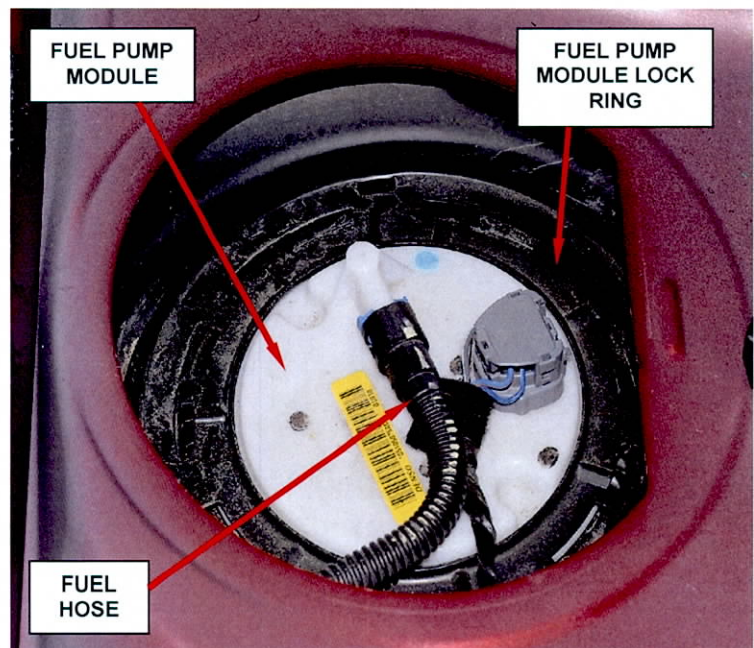

Figure 4 – Left Fuel Pump Module
5. Disconnect the fuel hose from the left fuel pump module (Figure 4).